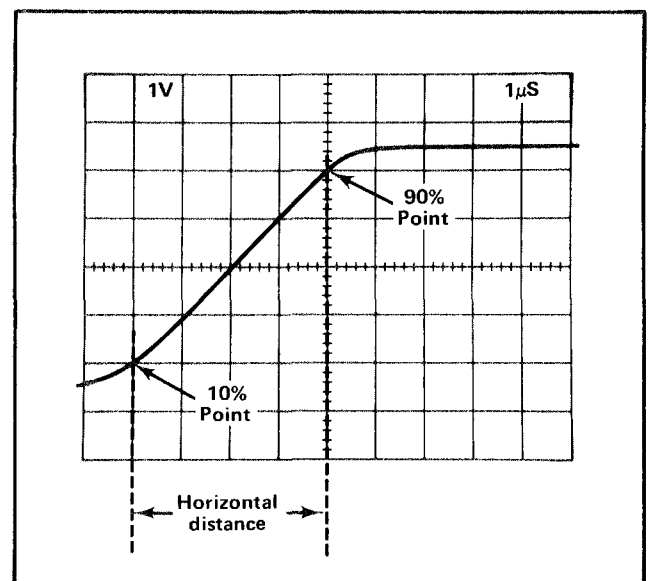

Fig. 1-14. Measuring risetime.
8. Adjust the horizontal POSITION control to move the 10% point of the waveform to the second vertical line of the graticule. For example, with a five-division display as shown in Fig. 1-14, the 10% point is 0.5 division up from the start of the rising portion.
**Example.** Assume that the horizontal distance between the 10% and 90% points is four divisions (see Fig. 1-14) and the TIME/DIV OR DLY TIME switch is set to 1  $\mu$ s. Applying the time duration formula to risetime: